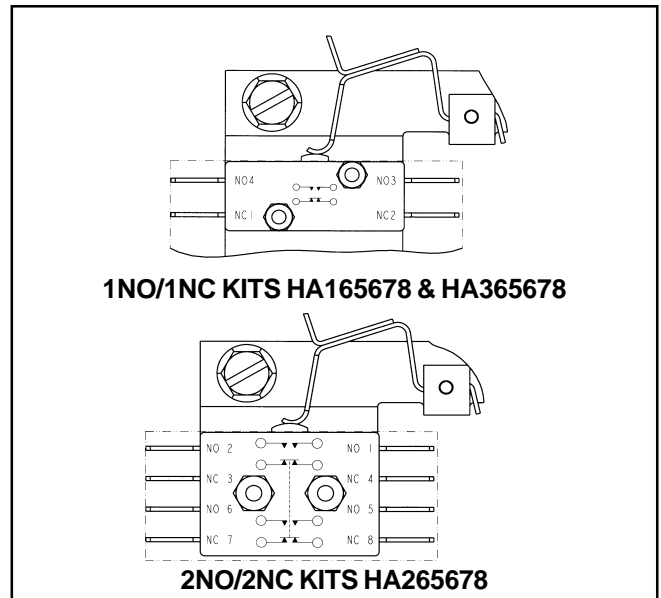

Fig. 2
5. Crimp on terminals supplied in kit to signal wires and attach them securely to switch using Fig. 2 for proper connection.